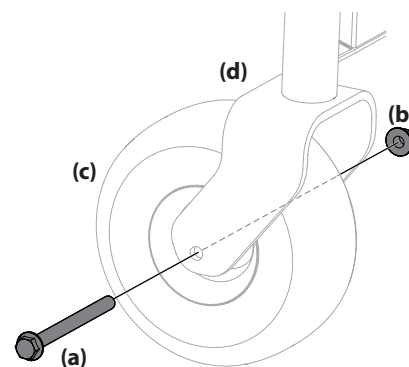

Figure 47
1. Remove the hex screw (a) and flange lock nut (b) that secures the front wheel (c) to the yoke assembly (d). See Figure 47.
2. To re-install or replace the front tire, reverse Step 1. Tighten the hardware to 75-90 ft-lbs (101-122 N-m). See Figure 47.